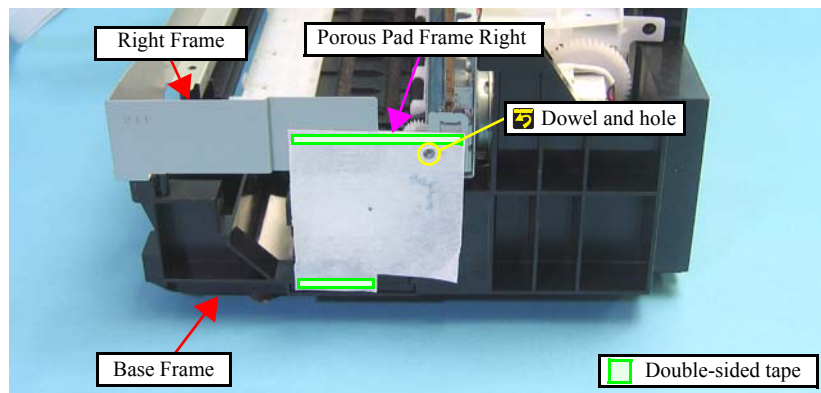

Figure 4-60. Removing the Front Frame/Right Frame (2)
- Before securing the Porous Pad Frame Right, align the hole of the Porous Pad Frame Right with the dowel of the Right Frame as shown in Figure 4-60.